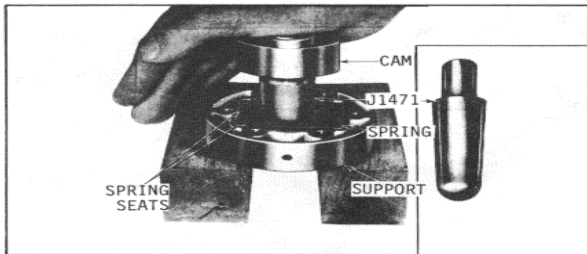

Fig. 6 Inserting Blower Drive Cam
- (6) Install a new lockwasher (58) and finger tighten the nut (57) on the hub. Install two bolts into the threaded holes in the drive gear hub. Place a suitable holding bar across the bolts to keep the hub from rotating and tighten the hub nut to 50-60 ft-lbs torque. Bend the ears of the lockwasher against the nut to lock the nut in place. Remove the two bolts.
- (7) Assemble the blower drive coupling.
- (a) Place the drive coupling support (67) on wood blocks as shown in Fig. 6.
- (b) Install the spring end seats (101) and place the spring seats (70) in each corner of the drive coupling support.
- (d) Place the blower drive cam (68) on the
- installer J 1471, insert the round end of the tool between the spring packs (69) and press the cam into position. See Fig. 6.